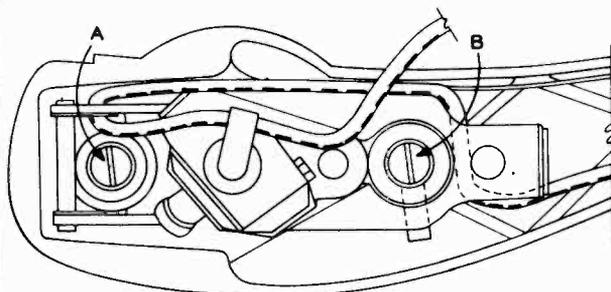

Fig. 10
CAUTION: Closely observe the original placement of the pickup cord and replace it in the same position. (See Fig. 10.) Do Not push hard on the needle end of the cartridge. Bending the mounting bracket will cause improper tracking or even cause both needle points to touch the record at once.
1. Remove mounting screws from mounting studs A and B, Fig. 10.